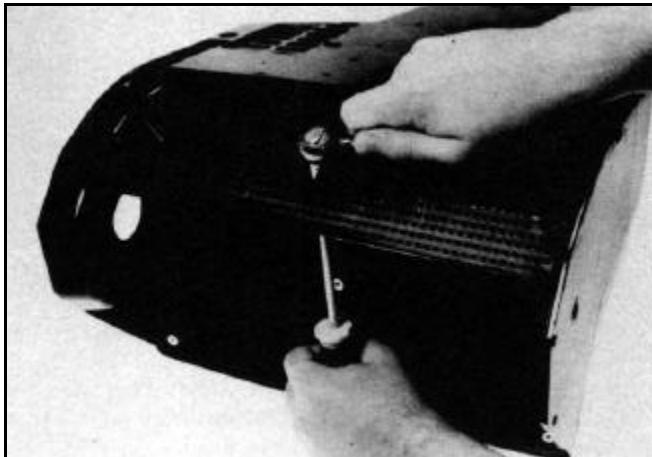

Figure 240
2. Remove the three screws, six washers, and three locknuts used to hold the scraper blade (Figure 240).